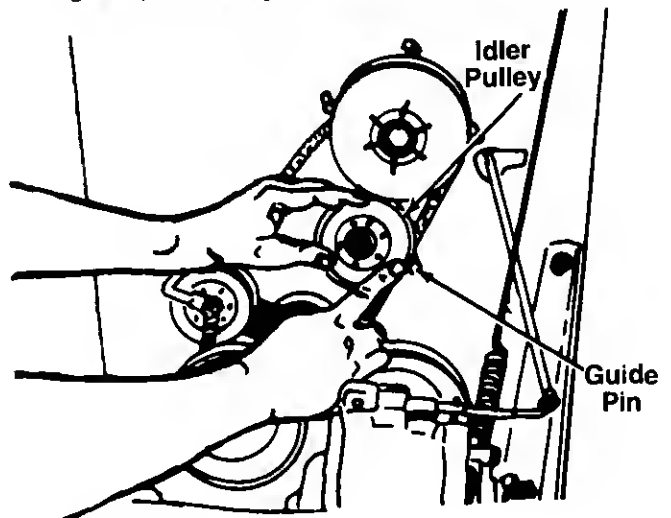

FIGURE 23.
11. When sliding the idler pulley on the idler bracket, be certain the belt is between the pulley and guide pin. See figure 23.